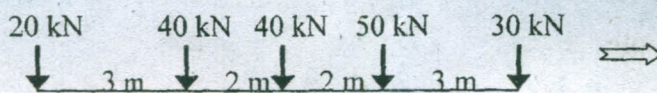

Fig.Q 12 (a)
12. (a) A train of loads as shown in Fig. Q.12 (a) crosses a simply supported beam of 24 m span from left to right. Using influence line determine the maximum bending moment at left one - third span point and also the absolute maximum bending moment in the beam.